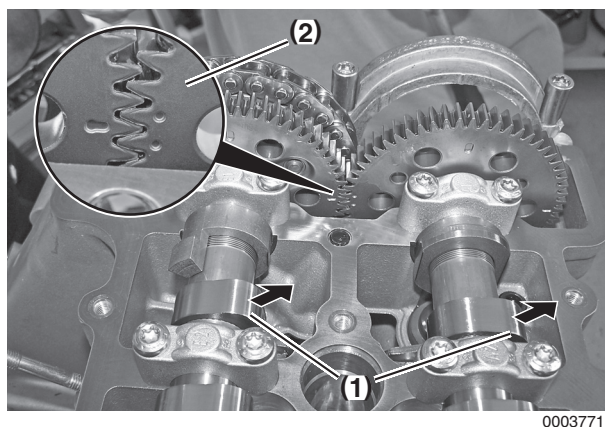

Figure 5-76
3. Rotate the crankshaft in the normal running direction until No. 1 cylinder is at TDC of the power stroke. The front lobe of each camshaft (Figure 5-76, (1)) will be facing toward the exhaust side and the timing marks (Figure 5-76, (2)) will meet.
4. Verify position by checking the camshaft timing marks (Figure 5-76, (2)) on gears are aligned. The single mark on intake camshaft gear must fall between the two marks on the exhaust camshaft gear. **NOTICE:** DO NOT rotate the crankshaft backward. If the crankshaft is turned past TDC, rotate two more turns (720°) to bring No. 1 piston back to TDC.